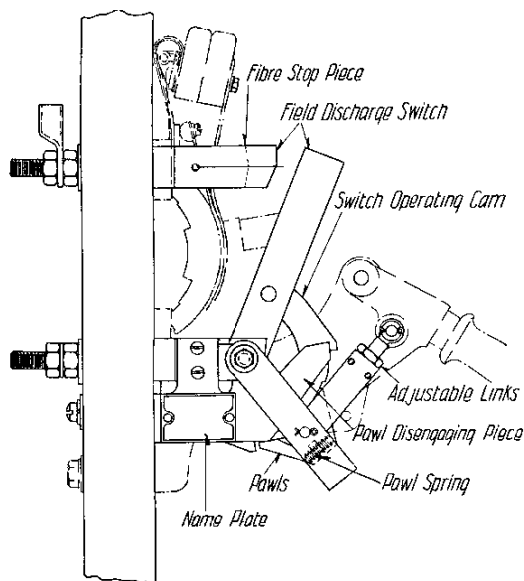

FIG. 15—FIELD-DISCHARGE-ATTACHMENT
**Field-Discharge Attachment (Figure 15)**—Field-discharge circuit-breakers are used to protect the shunt fields of large separately excited generators. The standard arrangement consists of a single-pole or two-pole, non-trip free hand or solenoid operated carbon circuit-breaker without overload trip but equipped with shunt-trip, auxiliary switch and field-discharge attachments.